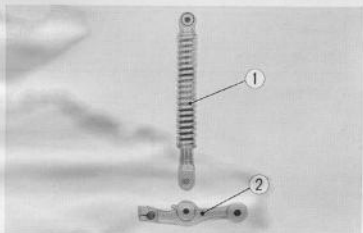

Fig. 4.38 Front cushion
9. Remove the front cushion under bolt by removing the 8 mm hex nut, then the front cushion ① can be disassembled from the suspension arm ②. (Fig. 4.38)